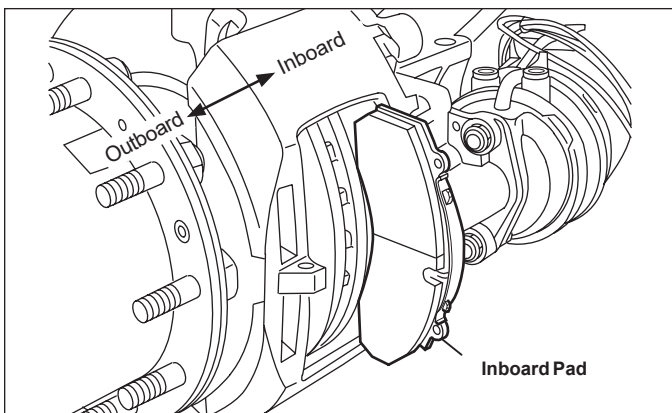

Figure 37 – Pad Removal
4.2.9 See Figure 37. Move the caliper fully inward and remove the inboard pad, then move the caliper fully outward and remove the outboard pad.